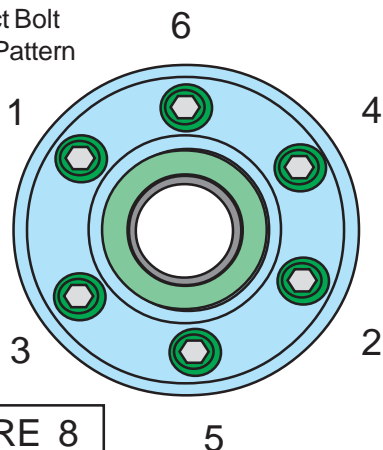
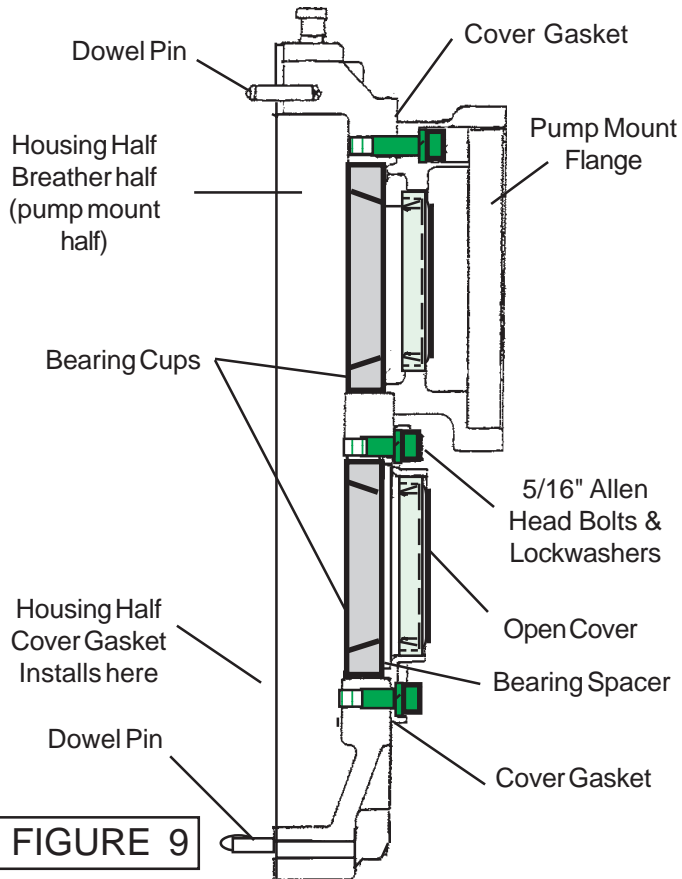

FIGURE 8
FIGURE 9
3. Install Bearing Flange Mount (figure 7) with new seal already installed to the housing half with the Allen head 5/16" -NC X 3-1/4" Gr. 5 bolts & lockwasher (figure 4 item 29 & 30) There are total of 24 of these bolts used on speed increaser, they are the same size and length bolts. Make certain the housing half, the one open cover and the pump mount flange are clean and free of the old gasket. Install new gaskets (figure 4 item 24) to the covers, use light gasket sealer when installing the covers. Only the one open cover and the pump cover flange can be installed and torqued to the housinf half (figure 4 item 16) at this time (figure 9). Coat the bolt threads with a thread light sealer The 5/ 16" bolts will **torque 12 to 15 ft. lbs.** These are to be torqued in a criss cross pattern (figure 8). Do this in increments to keep the flange and cover m mounted square and prevent warpage. The pump mount flange and the open cover mount and toque the same **12 to 15 ft. lbs.** After tightening the open cove and the pump mount flange make certain the ID of the seals are coated with light coat of grease.
4. Install the bearing spacer. (figure 4 item 35). Install the bearing spacer (figure 9) now in the open cover end of the housing. The bearing spacer is installed into the opening before the bearing cup is installed. Make certain the bearing spacer is installed flat and seated against the open cover.
in the open cover end. The other bearing cup is seated against the pump mounting flange (figure 9). **DO not** drive bearing in so far the open cover is damaged. **NOTE:** the bearing cups for the pump mount flange and the open cover side are the same size.
2. Install new bearing cups (items 9 & 10) into hub if needed. If the cups need to be replaced they should be pressed in or installed with a driver designed for bearing cup installation (figure 3 & 4). Make certain the bearing cups are fully seated into the hub squarely and completely (figure 8).
3. Pack Wheel bearing Cones (items 6 & 7). This can be done with a bearing packing tool or it can be done by hand. Grease must be pushed through the roller cage (figure 7) all the way around and completely. If grease is not pushed in to bearings around rollers and out the top and around rollers of bearing cones, they are not properly packed with grease, **this is important!** Lay the Hub with the outer bearing opening down and insert the inner bearing cone that has been properly packed with grease (figure 8).
If new style 3 piece seal (figure 6 & 8) is used, coat the OD of seal adapter with a Locktite type sealer. Drive the seal adapter into the hub with the open side up, this open side is the recess for the seal. Make certain seal adapter is seated into hub completely. Insert the seal into the seal adapter and drive it into the adapter until it is seated (figure 8). Coat the ID of the seal with light coat of grease.
5. Install wheel seal protector (item 8). **This will only apply to units with the new style three piece seal.** The three piece seal has a seal protector that drives onto the axle spindle (figure 9 & 11). An easy way to install the seal protector on to the spindle is with a driver that is hollow ID and has the correct diameter to drive it on. Another way is to heat the seal protector in an oven to about 250° to 300° then while still hot, drive it on. Use caution because it is hot, make certain to drive it on straight while it is still hot. The seal protector allows the hub seal and seal adapter to be covered by the seal protector when completely assembled.